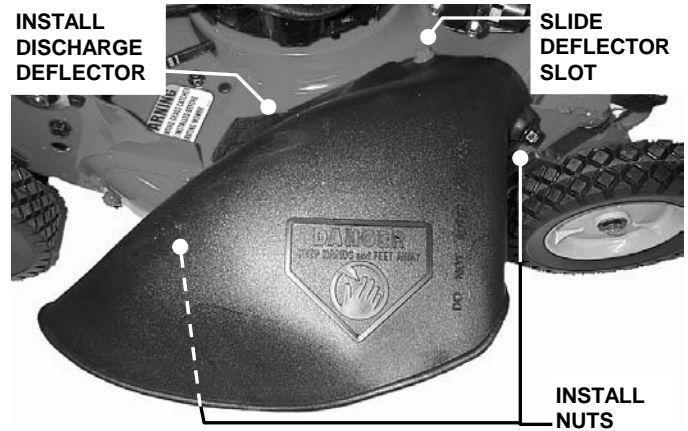

FIGURE 2.13
C. Install discharge deflector and secure to deck using hardware just removed in Step A. Slot in front edge of discharge deflector must be under nut as shown and both bolts protruding through holes in the side of the deflector. Secure nuts to the side of deflector. Tighten nuts securely. See Figure 2.13.